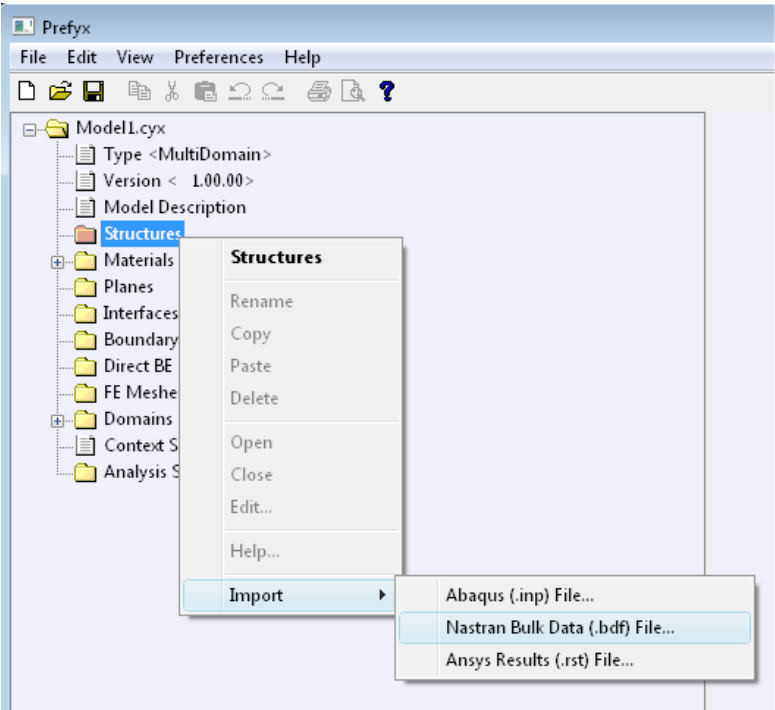

Figure 9.5: Import a finite element structure mesh.
- Right-click on **Structures** and select: **Import** → **Nastran Bulk Data (.bdf) File...** (as shown in Figure 9.5) to import mesh from Nastran bulk data format. The FE meshes from Abaqus and Ansys data formats can be imported by selecting **Abaqus (.inp) File** or **Ansys Results (.rst) Files** respectively.